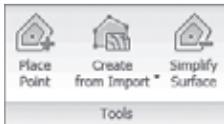
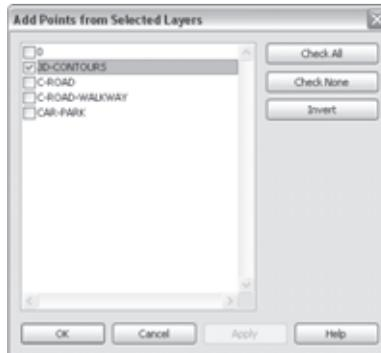

Figure 7.27
Figure 7.28
- Open the Massing & Site tab, and from the Model Site panel, select the Toposurface tool. From the new content menu under the Tools panel, click Create from Import (Figure 7.27) and then choose Select Import Instance. Click somewhere over the DWG in your drawing area to highlight the site DWG. A dialog box (Figure 7.28) will open, and you'll see a list of all the layers included in the DWG. You need to know the layers on which the topography information is stored and select only those layers. In this case, click Check None, and select the layers called 3D-CONTOURS. Click OK. A toposurface will be generated from the imported geometry. Click Finish Surface to complete the task.